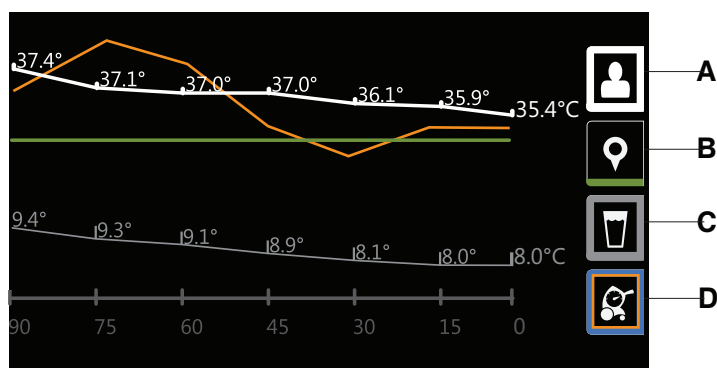

Figure 19 – Graphical display
- Primary patient temperature reading from attached probe (A) (Figure 19)
- Intermediate target temperature (B)
- Water temperature (C)
- Power level (D)